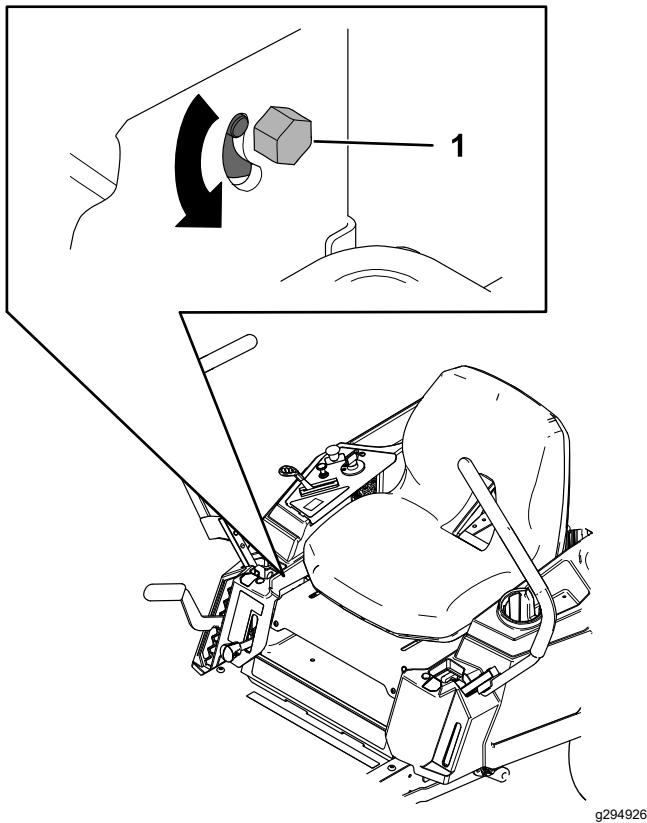

Figure 48
3. Locate the tracking-adjustment bolt near the motion-control lever on the particular side that needs adjusting (Figure 48).